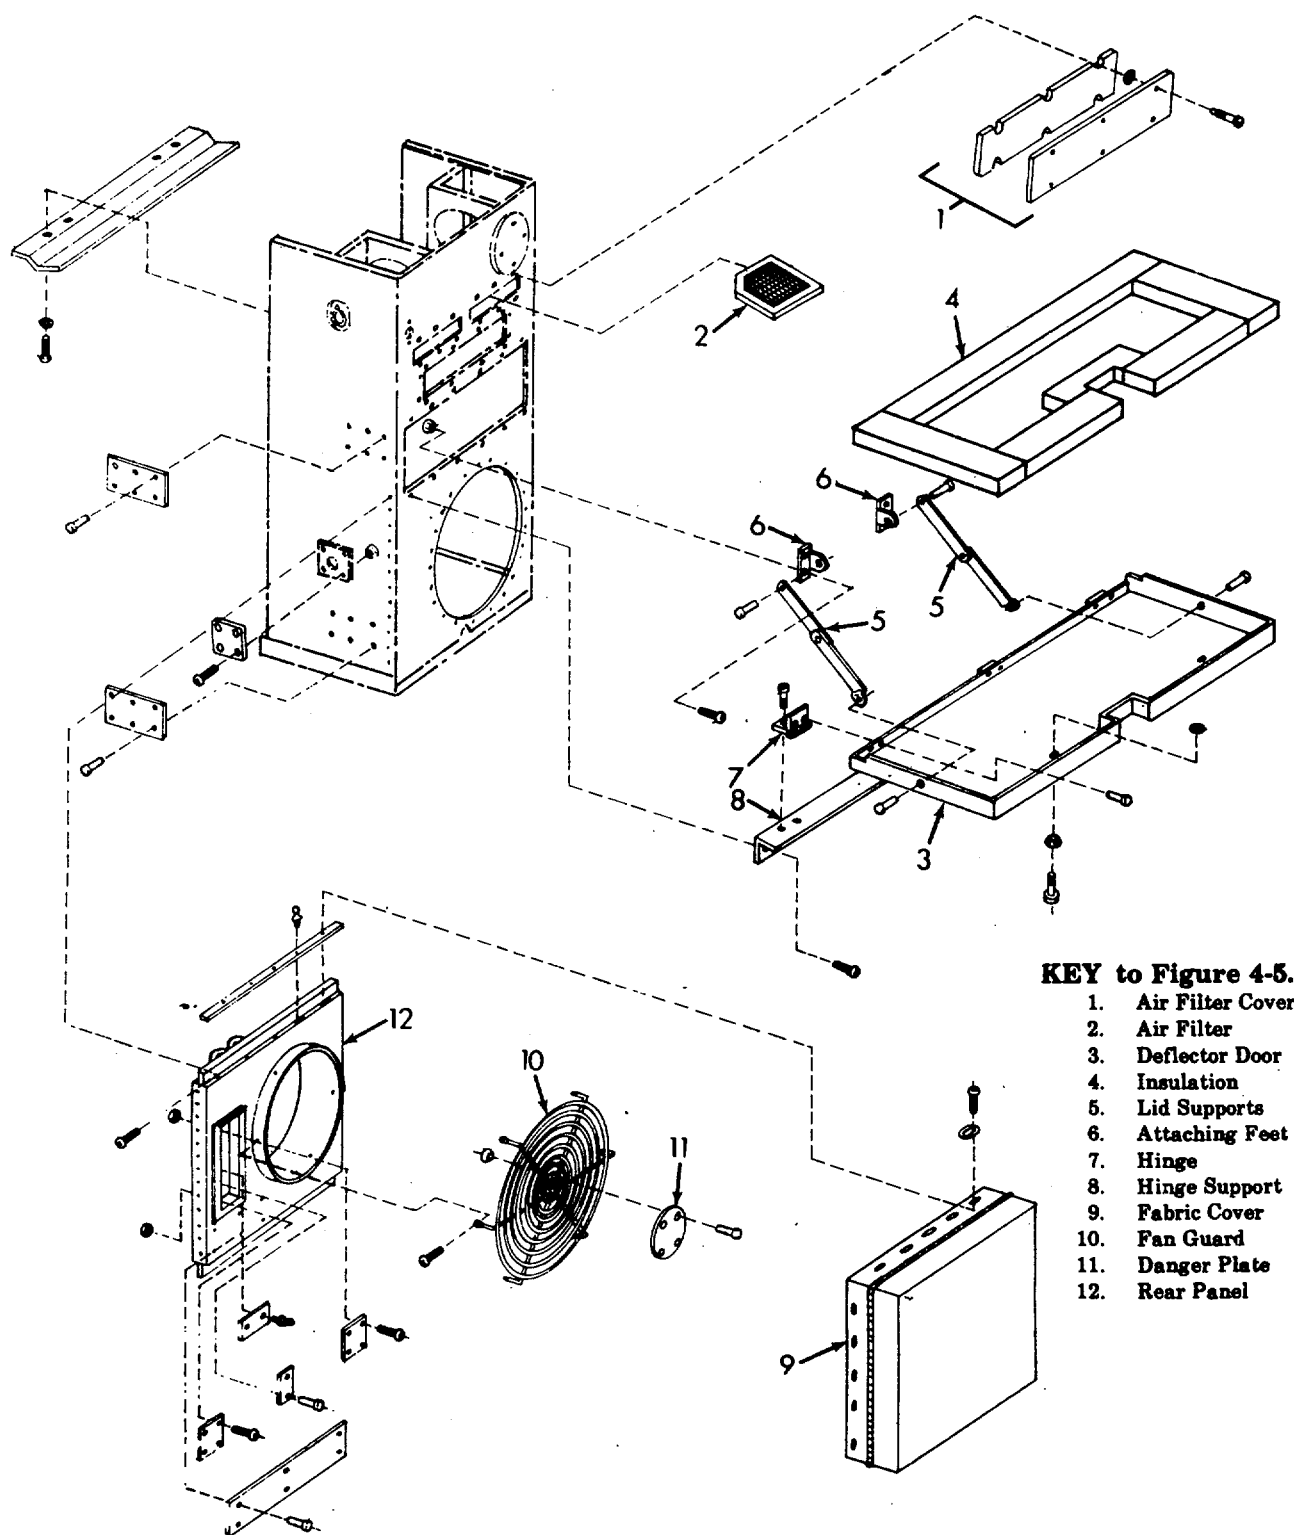

Figure 4-5. Rear Cover, Door and Guard)
**t. Installation of Fan Guard.** (See figure 4-5) Orient the fan guard (10) so that information plate (11) reads properly, and align attaching loops with screw holes in shroud. Secure with six screws.
**u. Installation of Deflector Door.** Position the deflector door (3) on the unit and secure it with six screws through the hinge (7) on lower edge of door. Attach feet (6) of shelf brackets (5) with two screws and nuts through each bracket. For model CV-60-5/6-08 secure with eight screws through hinge on lower edge of door and four rivets.
**v. Installation of Air Conditioner Cover.** Fit cover (9) over mounting frame, and align eyelets with screw holes in frame. Secure with 12 screws and washers. Install two turn button fasteners in top edge.
The condenser fan guard (10, figure 4-5) is made of spot-welded stainless steel rod, and should be maintenance free except for damage.